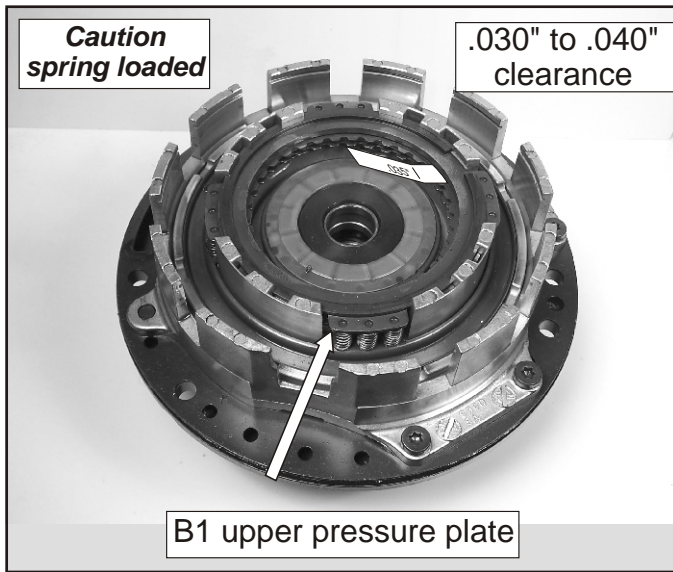

Figure 123
70. Assemble the B1 upper pressure plate on top of the spring retainer as shown in Figure 123. Press it down and assemble the retaining snap ring. Check B1 clutch clearance using a feeler gage. Clearance should be between .030\"- .040\".